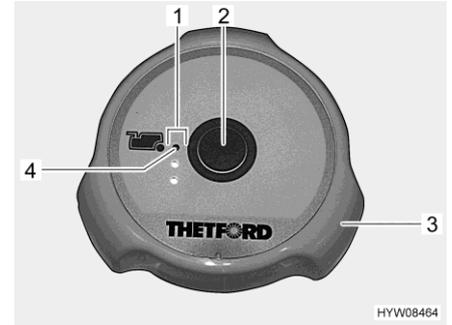

Fig. 147 Flush button/indicator lamps (Thetford toilet)
Flushing: ■ Before flushing open the sliding trap of the Thetford toilet. To do this, turn the rotary handle (Fig. 147,3) in an anticlockwise direction.
■ For flushing, press the blue flush button (Fig. 147,2).
■ After flushing close the sliding trap. To do this, turn the rotary handle (Fig. 147,3) in a clockwise direction.
The indicator lamps (Fig. 147,1) show the filling level of the sewage tank. The red indicator lamp (Fig. 147,4) lights up whenever the sewage tank has to be emptied.